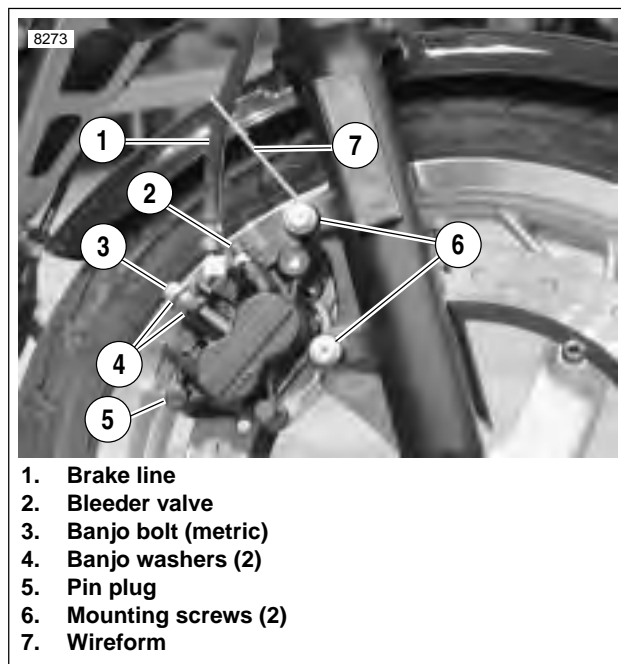

Figure 2-41. Front Brake Caliper
2. See Figure 2-41. Apply LOCTITE 272 (red) to both caliper mounting screws (6). Install wireform to upper screw and tighten both screws to 18-22 ft-lbs (24-30 Nm).
- e. See Figure 2-41. Install pin plug (5). Tighten to 18-25 in-lbs (2-3 Nm).
4. See Figure 2-41. Connect brake line (1) to caliper using two new banjo washers (4) and banjo bolt (3) (metric). Tighten to 16-20 ft-lbs (22-27 Nm).